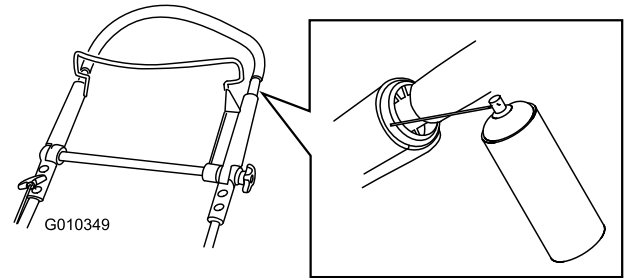

Figure 40
- Spray the outer plastic end of the inner handle (Figure 40).